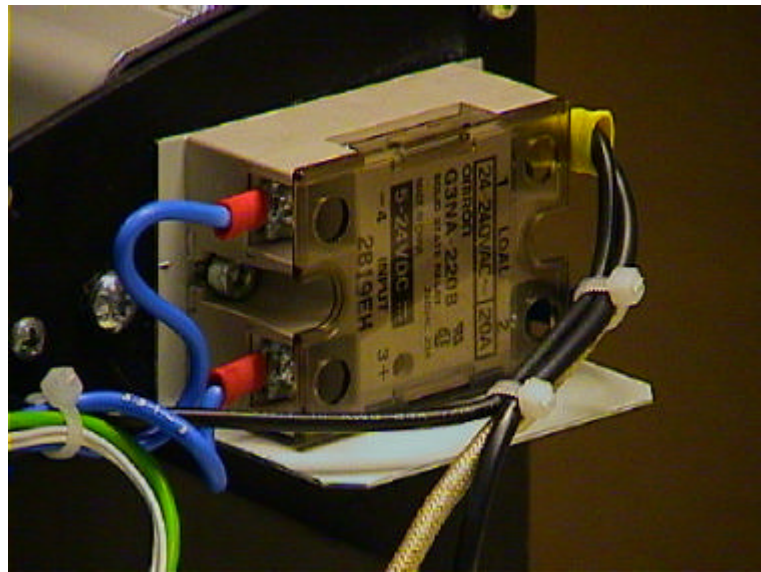

fig. 24
1. Loosen all four screws that clamp the wires. They are marked 1 through 4. See figure 24.